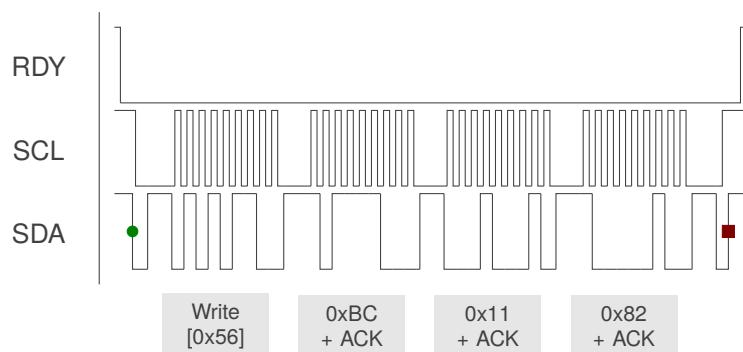

Figure 12.2: I2C Write Example - Write 0x82 (Ack Reset bit) to System Control Register 0x11BC
The write operation is displayed in Figure 12.2. Similar to the read transaction, when the RDY interrupt is triggered, the master initiates communication by sending a start condition followed by the device address along with a write command. The IQS9150/IQS9151 will respond with an acknowledgement, after which the master device will transmit two bytes defining the register address. The slave acknowledges the register address bytes. The master may then write a series of bytes to the register address and the addresses which follow, with each byte being acknowledged by the slave. The write operation is ended when the master produces a stop condition.
- > Write the value 0x82 to Register 0x11BC as shown in Figure 12.2.